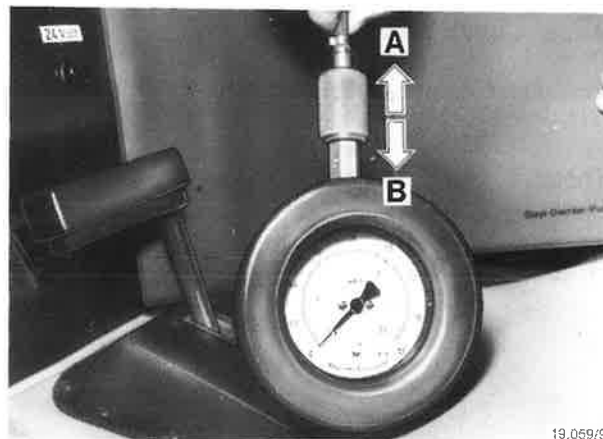

Fig. 5
- 6 Open the manometer check valve (turn it in the direction of arrow B) (5)
**Note:** To facilitate reading off boost pressure whilst driving, the value can be stored by tightening the check valve - arrow direction A - and then read off (5).
**WARNING:** To avoid incorrect measurement when checking boost pressure, the manometer check valve must be vertically upwards when reading off boost pressure (see Fig. 5).